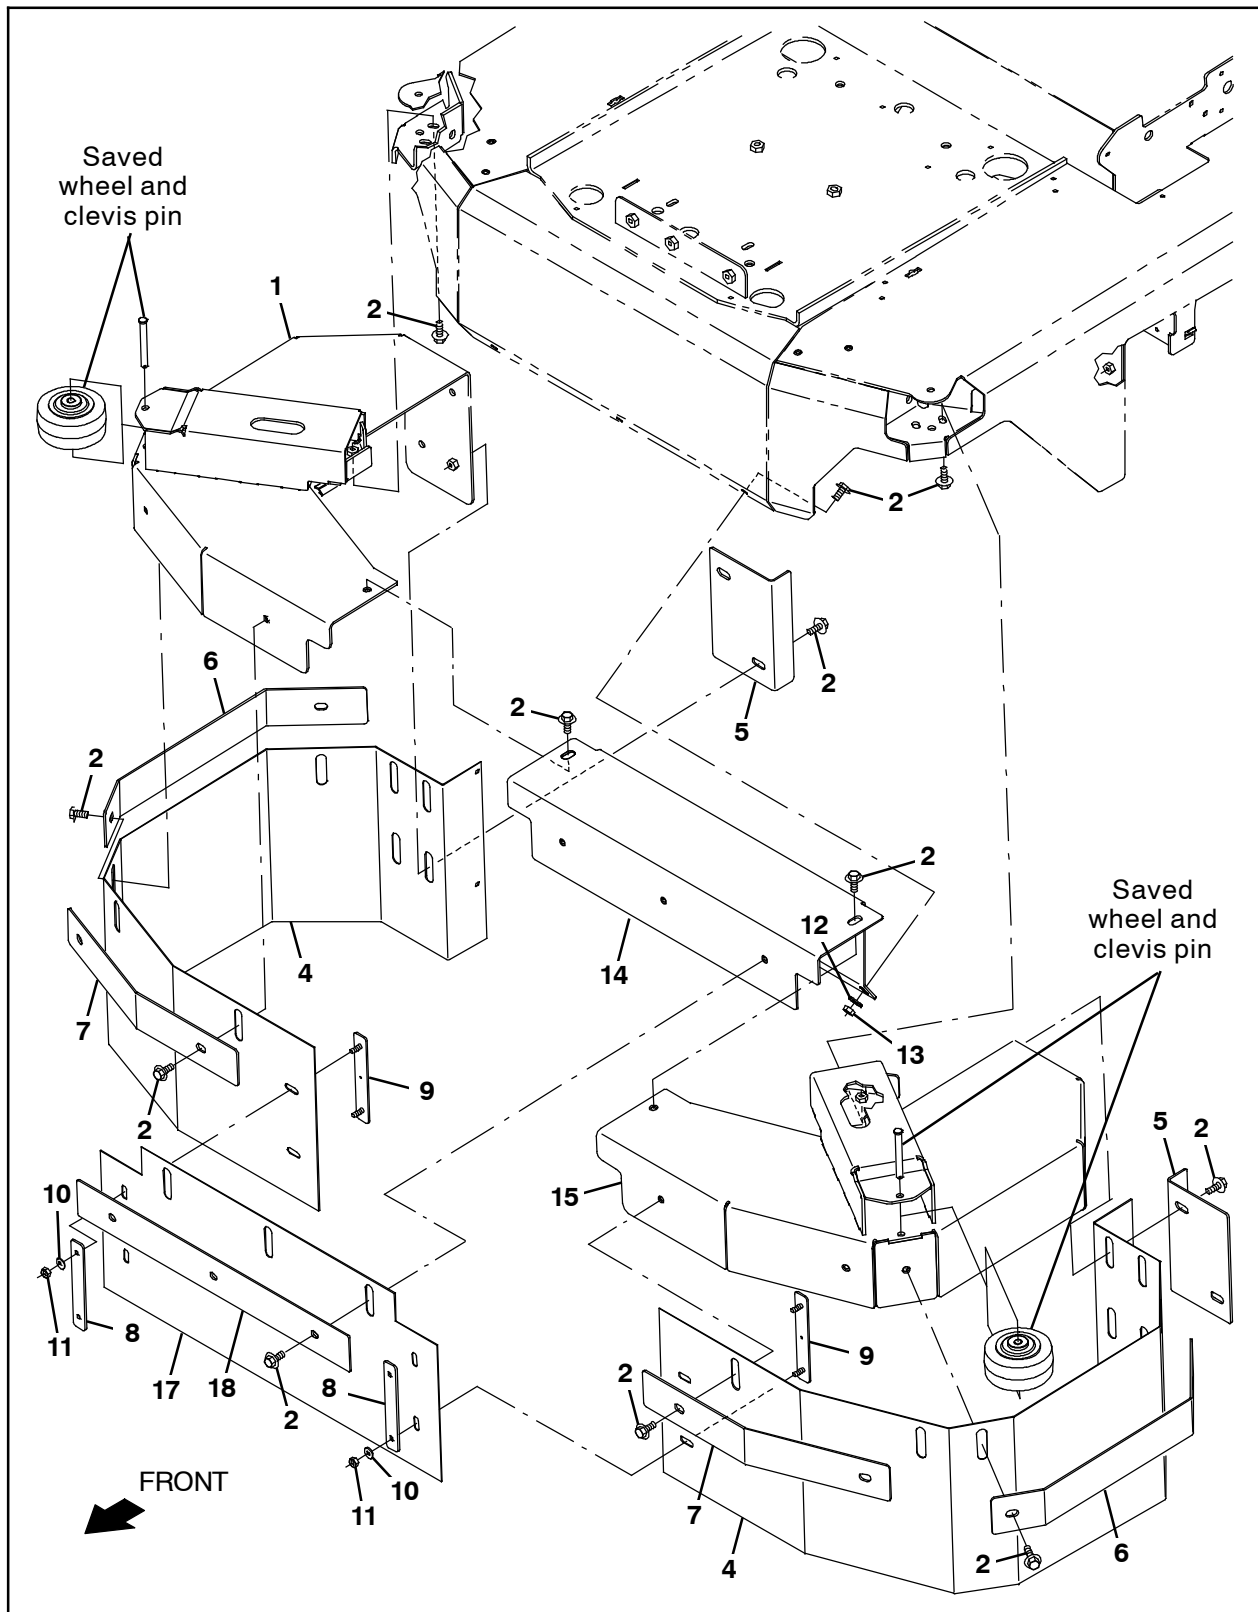
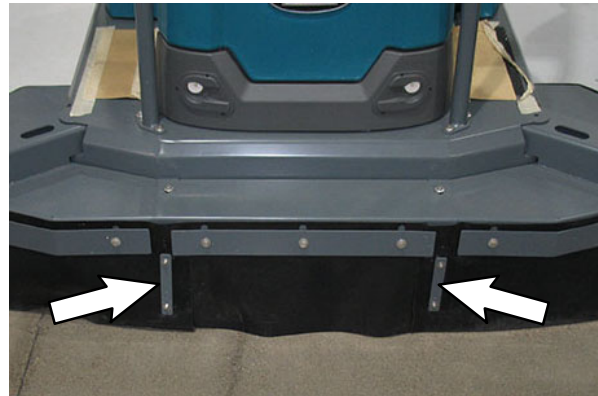

FIG. 8
FIG. 9
19. Place the right skirt bumper bracket (1) onto the machine, push the right skirt bumper bracket against the frame of the machine, and use one SEMS M8 hex screw (2) to install the right skirt bumper bracket onto the machine. Do not completely tighten hardware. Hardware is tightened following adjustment. (Fig. 8)
20. Place the left skirt bumper bracket (15) onto the machine, push the left skirt bumper bracket against the frame of the machine, and use one SEMS M8 hex screw (2) to install the left skirt bumper bracket onto the machine. Do not completely tighten hardware. Hardware is tightened following adjustment. (Fig. 8)
21. Use three SEMS M8 hex screws (2), three flat washers (12), and three M8 hex nuts (13) to secure the front skirt bracket (14) to the bumper of the machine. Do not completely tighten hardware. Hardware is tightened following adjustment. (Fig. 8)
22. Use two SEMS M8 hex screws (2) to install the front skirt bracket (14) onto the right skirt bumper bracket (1)/skirt bumper bracket (15). Do not completely tighten hardware. Hardware is tightened following adjustment. (Fig. 8)
23. Adjust the right skirt bumper bracket (1), left skirt bumper bracket (15), and the front skirt bracket (14) on the machine and tighten the SEMS M8 hex screws (2) to completely secure the brackets onto the machine. (Fig. 8)
24. Use two SEMS M8 hex screws (2) to install the skirt retaining bracket (6)/skirt retainer bracket (7) and the side brush skirt (4) onto the right skirt bumper bracket (1). Do not completely tighten hardware. Hardware is tightened following adjustment. (Fig. 8)
25. Use two SEMS M8 hex screws (2) to install the skirt retaining bracket (6)/skirt retainer bracket (7) and the side brush skirt (4) onto the skirt bumper bracket (15). Do not completely tighten hardware. Hardware is tightened following adjustment. (Fig. 8)
26. Use two SEMS M8 hex screws (2) to install the front skirt strap (18) and the front skirt (17) onto the front skirt bracket (14). Do not completely tighten hardware. Hardware is tightened following adjustment. (Fig. 8)
27. Observe the distance of both side brush skirts (4) and the front skirt bracket (14) to the floor. The bottom edge of all three skirts should be barely touching or just slightly above the floor. (Fig. 8)
28. Adjust both side brush skirts (4) and the front skirt (17) as necessary and tighten the hardware to completely secure all three skirts to the machine. (Fig. 8)
29. Use a skirt retainer bracket (9), skirt retainer plate (8), two flat washers (10), and two M6 hex nuts (11) to completely secure each side brush skirt (4) to the front skirt (17). (Fig. 9/ Fig. 8)
30. Neatly arrange the side brush skirt (4) between the right skirt bumper bracket (1) and skirt retaining bracket (5) and use two SEMS M8 hex screws (2) to secure the skirt retaining bracket onto the side brush skirt/right skirt bumper bracket. (Fig. 10/ Fig. 8)
31. Neatly arrange the side brush skirt (4) between the left skirt bumper bracket (15) and skirt retaining bracket (5) and use two SEMS M8 hex screws (2) to secure the skirt retaining bracket onto the side brush skirt/left skirt bumper bracket. (Fig. 9/ Fig. 8)
32. Use a saved clevis pin to install a wheel into both the right skirt bumper bracket (1) and the skirt bumper bracket (15). (Fig. 8)
33. Use Loctite 598 Black sealant (or similar sealant) to seal the gap between the right skirt bumper bracket (1), left skirt bumper bracket (15), and front skirt bracket (14) and the frame of the machine. (Fig. 8)